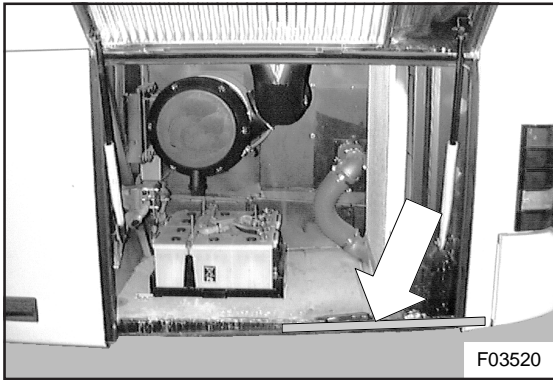

Figure 5: Location of angle gusset
8. Undo and remove the two M6 angle gusset retaining bolts clamping the bottom door seal of the radiator compartment (see Figures 5 and 6). Remove angle gusset and fold back the seal.